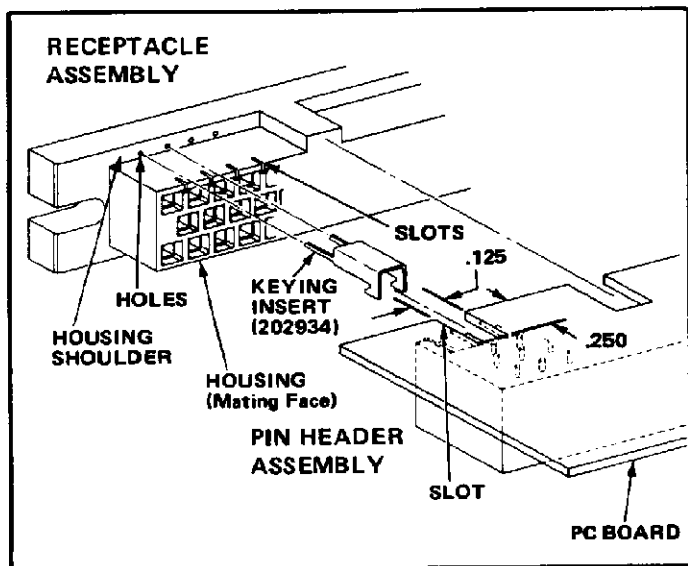

Fig. 7
B. Keying Insert 202934 (see Figure 7)
Refer to Figure 7 and proceed as follows: